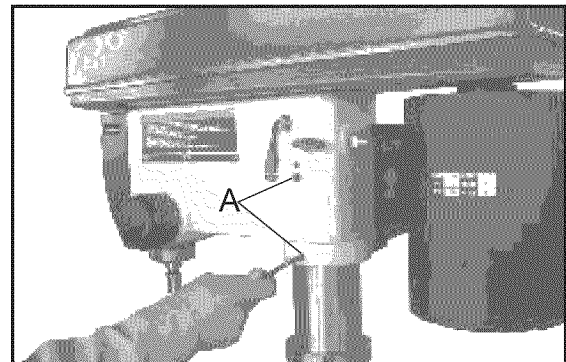

Figure 3
2. Tighten the drill press head to the column by tightening the two set screws on the right side of the head as shown (A-Figure 3).